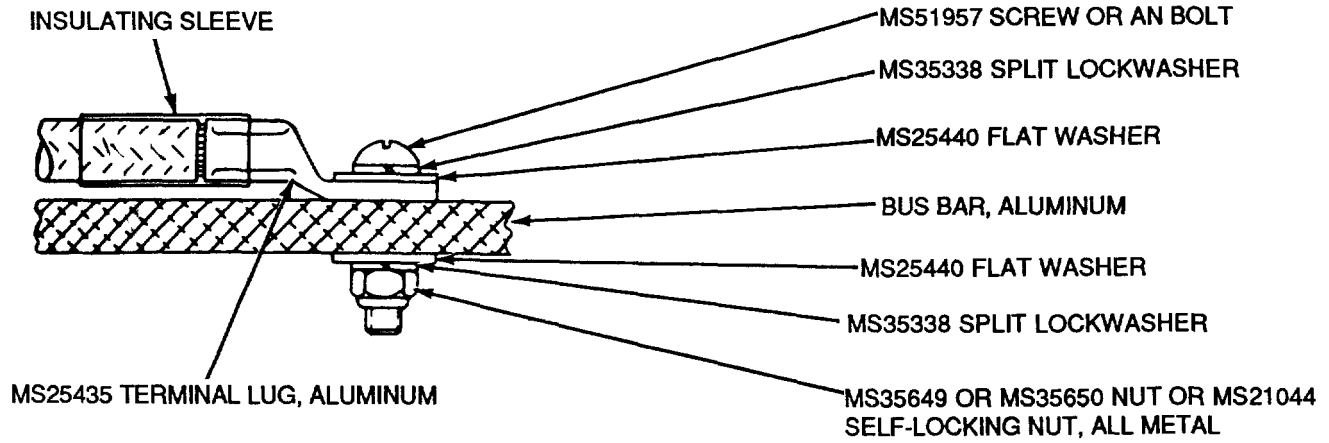

Figure 4. Connecting Aluminum Terminal to Aluminum Bus Bar
25. CONNECTING TERMINAL LUGS TO BUS BARS. In order to obtain maximum efficiency in the transfer of power, the terminal lug and the bus bar should be in direct contact with each other so that the current does not have to go through any of the attaching parts, even if these are good-current-carrying materials. As illustrated in Figures 4 through 7 the above applies whether the terminal lugs and bus bar are of the same or of different materials.